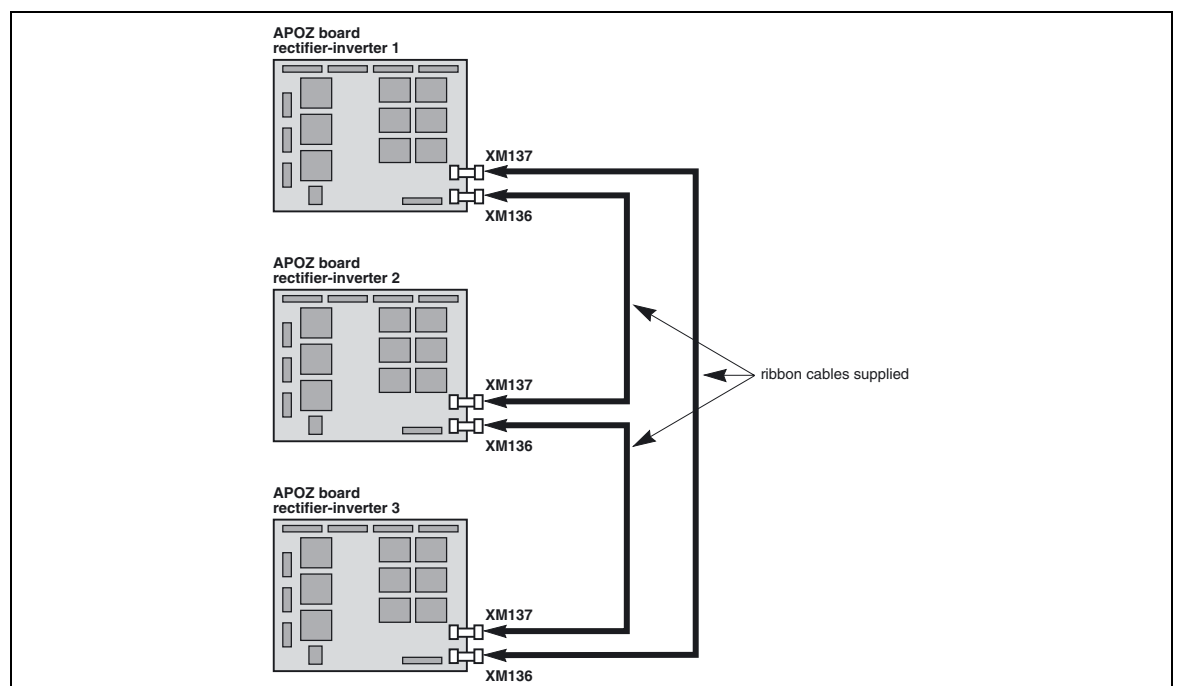
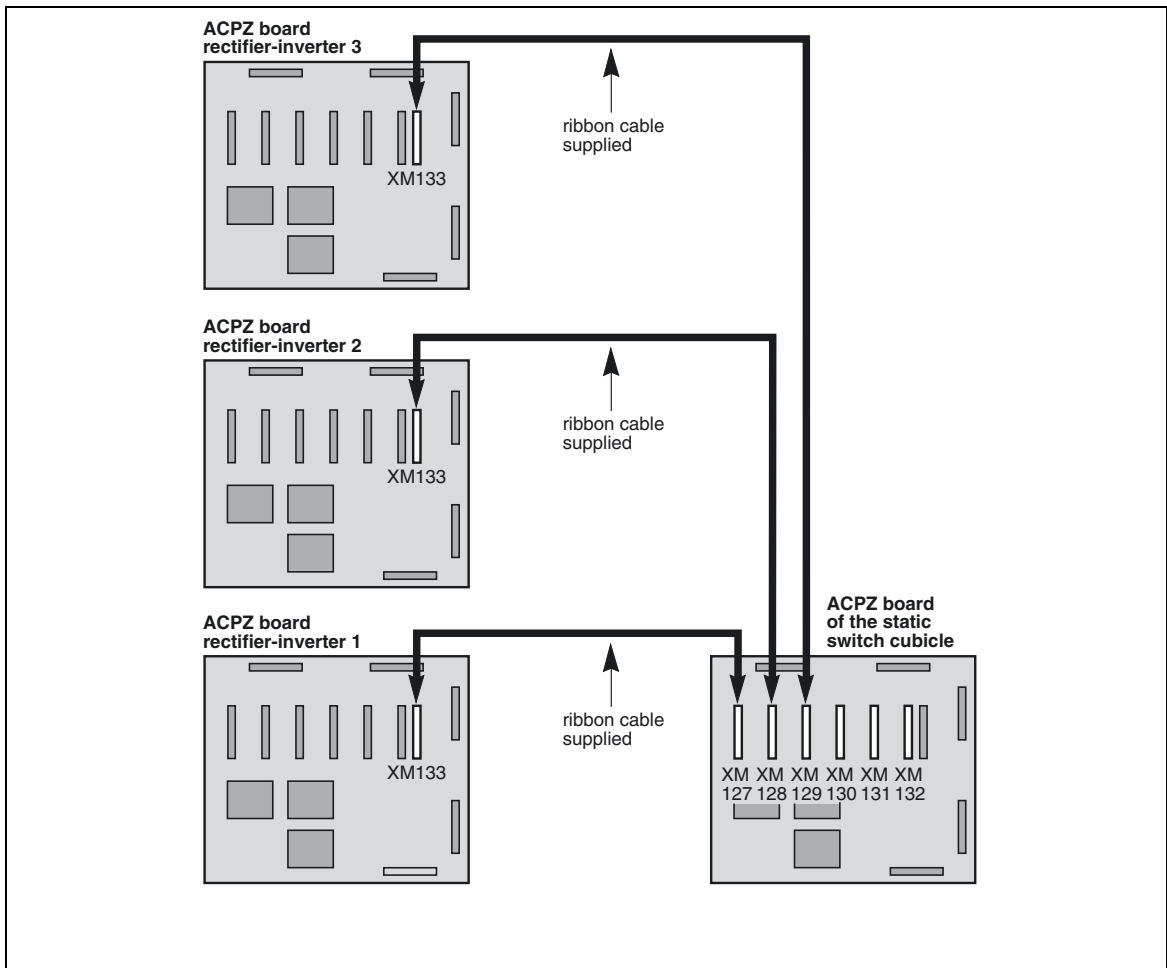
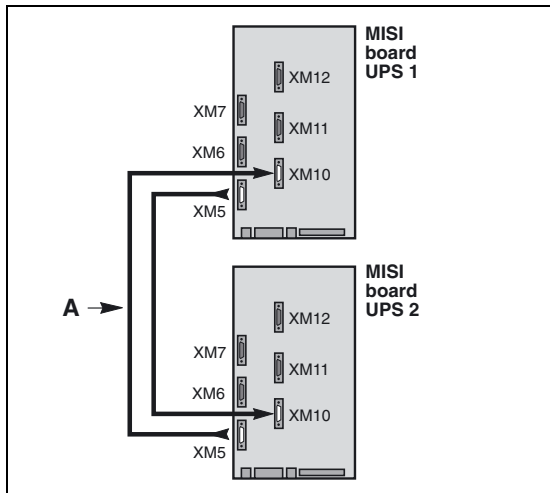

Fig. 17
Fig. 18
Fig. 19
On modular UPSs, interconnections are made on the APOZ (figure 17) and MISI (figures 19 to 21) boards in the UPS cubicles (see the layout of the boards in the figures in the previous section).
For parallel UPSs with a centralised SSC, interconnections are made on the APOZ boards in the UPS cubicles (figure 17) and the ACPZ boards (see the layout of the boards in the figures in the previous section) in the SSC (figure 18).
See figures 19 to 21.
- situation with two modular UPS units: see figure 19;